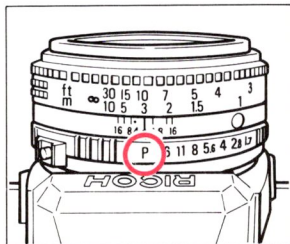

Fig. 26
3. Set the lens to "P". (Fig. 26)